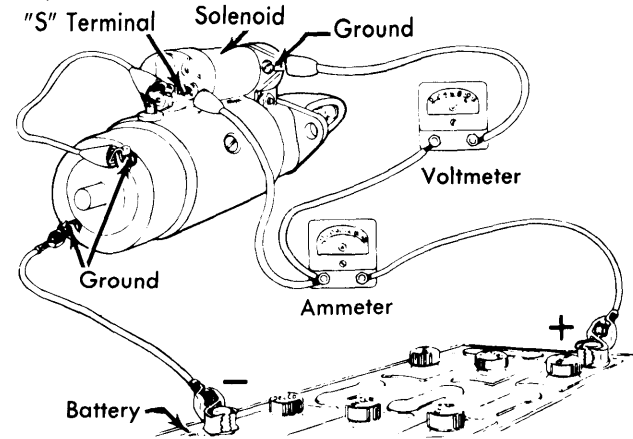

Fig. 1 Test Connections for Checking Solenoid Winding
**Hold-In Winding** — Connect an ammeter, voltmeter and battery into starter circuit. (see Fig. 1). Use a carbon pile to decrease battery voltage to 10 volts. Ammeter should read 14.5-16.5 amperes. If amperage is above 16.5, then winding is shorted or grounded. If amperage draw is below 14.5 amperes, excessive resistance is indicated.